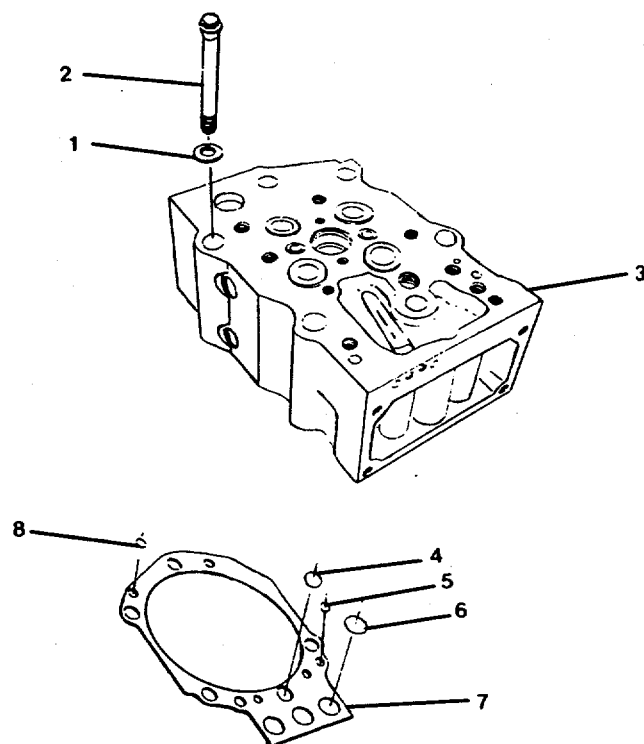

FIGURE 2-56. Cylinder Head Group, Cylinder Head Diesel Engine.
- a. Remove six hexagon head capscrews (2, FIG. 2-56), and flat washers (1).
- c. Lift diesel engine cylinder head (3, FIG. 2-56) straight away from the block to clear the dowels.
- d. Remove and discard gasket (7) and preformed packings (4, 5, 6 and 8).
- a. Be sure the orifice plug in the cylinder block is open. Place the cylinder head gasket (7, FIG. 2-56) over the dowels in the block. The word "TOP" on the gasket must be visible after the gasket is installed.
- d. Lubricate the head and threads of the hexagon head capscrews (2, FIG. 2-56) and the washer (1) with clean engine lube oil.